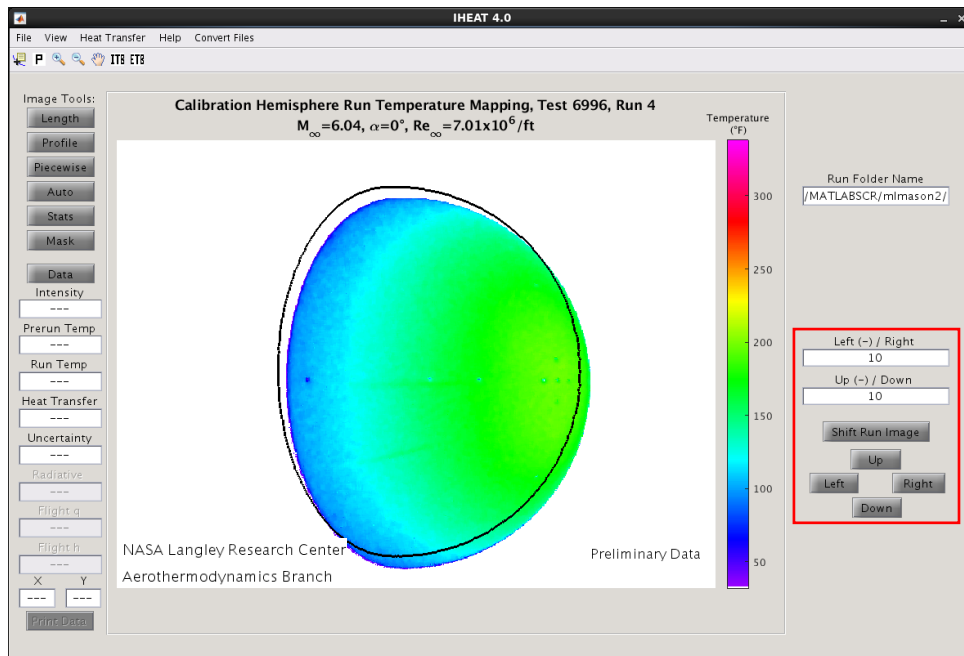

Figure 30: Image Tools, *Shift Run Temperature Image.*
2. *Shift Run Image*: The run temperature image can be shifted to align the image with the pre-run temperature image, using the black outline of the prerun image as a guide. Figure 30 shows the run temperature image shifted in the opposite direction. The user can either type the number of pixels to shift the run temperature image directly into the text boxes, or use the up, down, left, and right buttons (shown in the red box in figure 30) to shift the image one pixel at a time. The values in the text boxes indicate the full number of pixels the image has been shifted; thus, if the user enters “0” in both text boxes, the run temperature image returns to the original position, negating all the shifting operations.